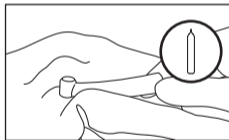

Fig. 15
- 4 Wipe the exterior of the handpiece, wrench clean using a cloth moistened with disinfectant or ethanol with a concentration of 60-90%. (Fig. 15)